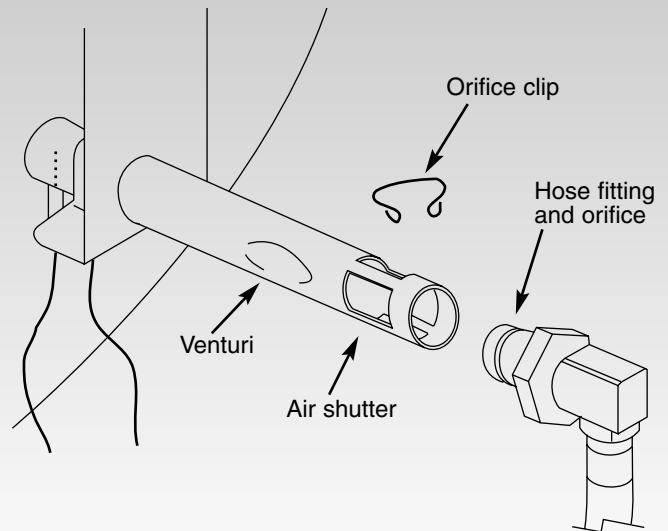

Figure 12
3. Remove orifice clip and hose fitting from the burner tube. Figure 12.